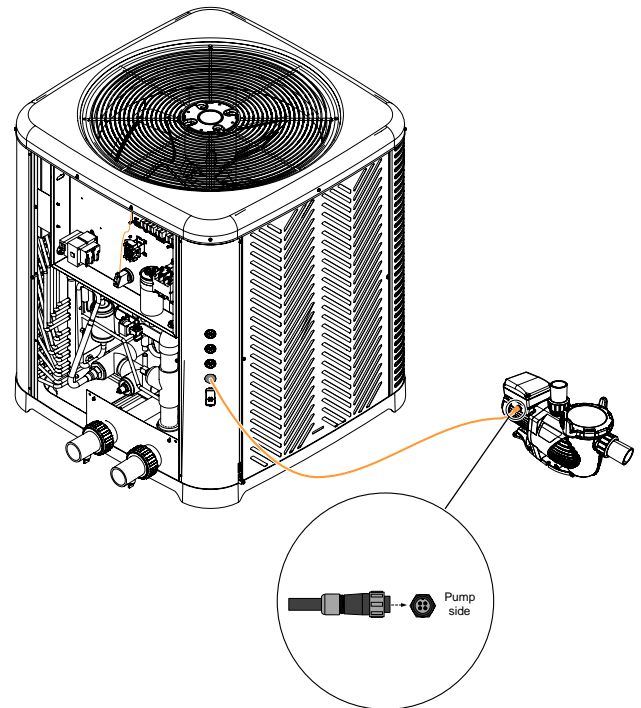

Figure 136. Keyed Circular Connector
- Connect the keyed circular connector of the pump harness to the pump. See Figure 136.